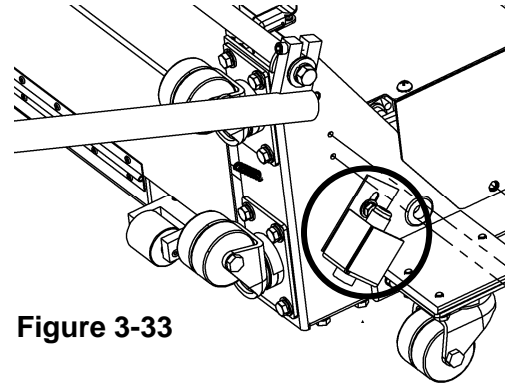

Figure 3-33
2. Locate the sensor on the bracket over the back, right caster wheel, as shown in Figure 3-33.